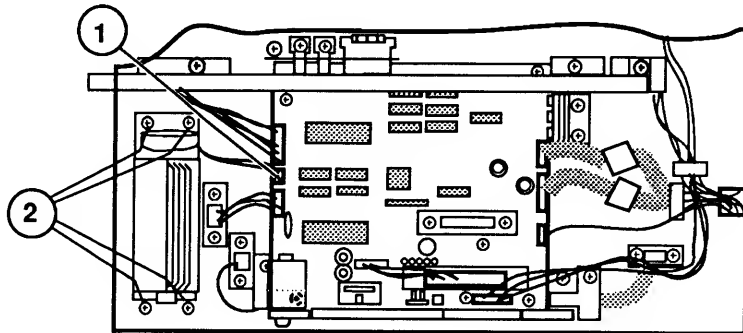

FIGURE 67
2. Disconnect the fan cable (Figure 67, #1) from DC controller PCA connector J207.
3. Remove the four Phillips screws (Figure 67, #2) that secure the fan to the chassis.